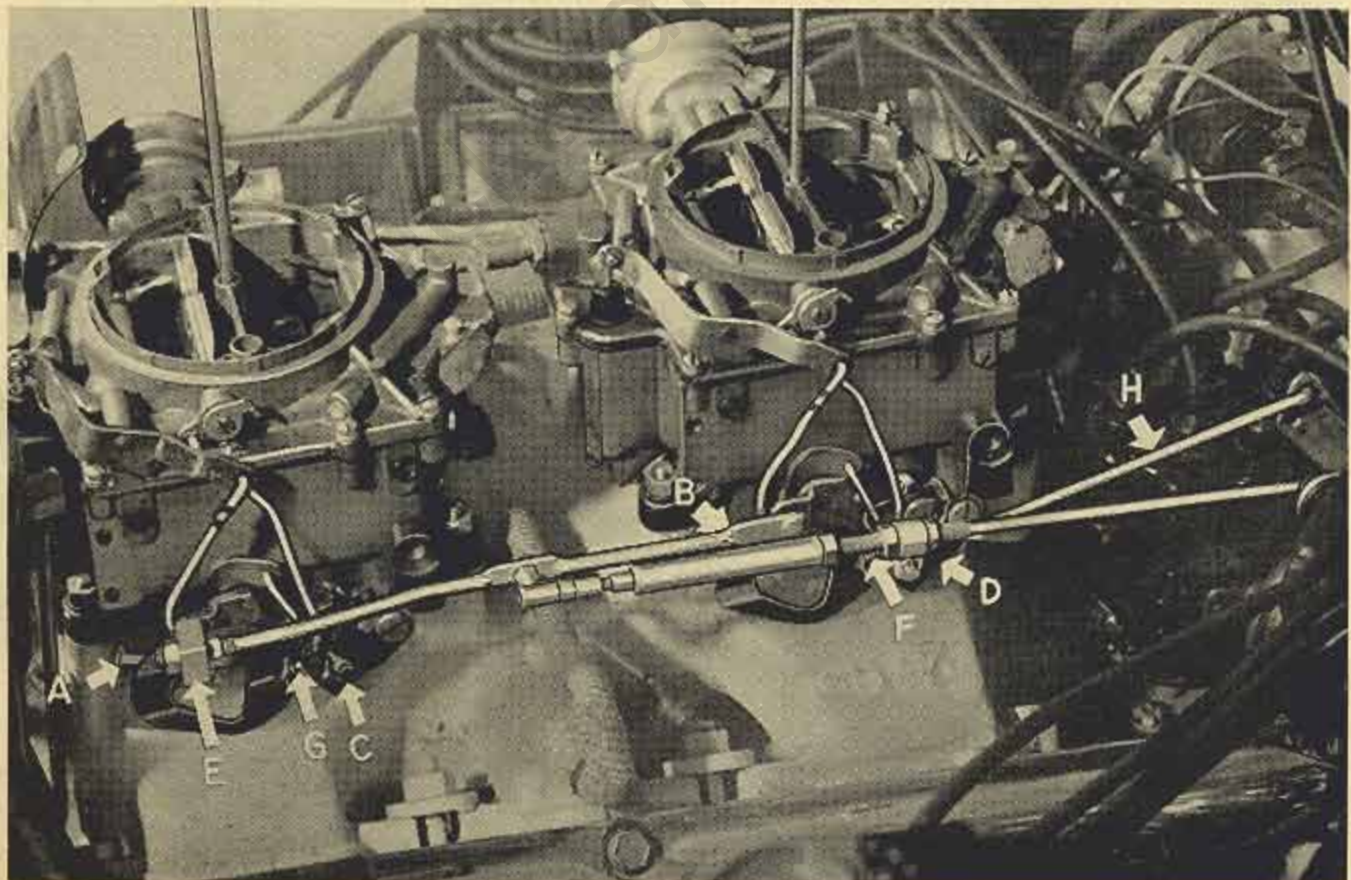

Fig. 1
The front carburetor has an idle speed stop screw "A" (Fig. 1) with an elongated head. The rear car-
1. Loosen the two jam nuts next to the pin "E" (Fig. 1) several turns.